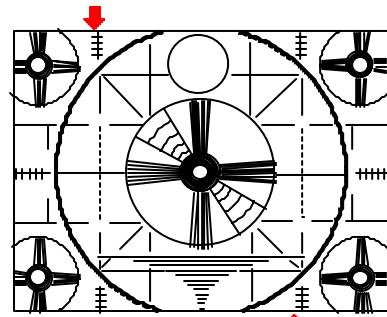

Fig.1-5 PAL MONO-SCOPE
2. Use the VOLUME + or - key on the remote controller to adjust the upper and lower scales within the range specified in SPEC. (Fig. 1-5)